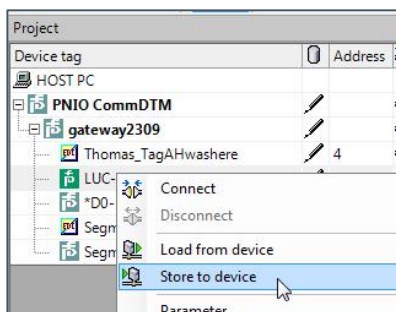

Figure 65: Store parameters from software to device
- 3) Right-click the device, select **Store to device**. This will save settings to the device before connection (see: Figure 65: Store parameters from software to device).